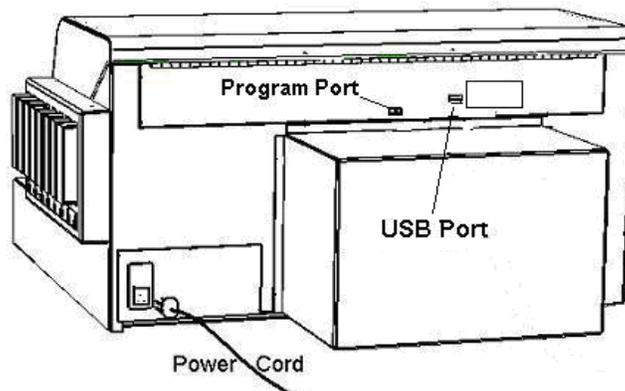

Figure 3.8
- Plug in the provided USB Cable to the USB port in the rear of the printer, (see figure 3.8). **!** – **DO NOT PLUG THE USB CABLE INTO THE PROGRAMMING PORT. DOING SO MAY RESULT IN A PRINTER FAILURE THAT MAY REQUIRE YOU TO RETURN THE PRINTER FOR REPAIR.** Plug the other end of the USB cable into one of the available USB ports on your computer.